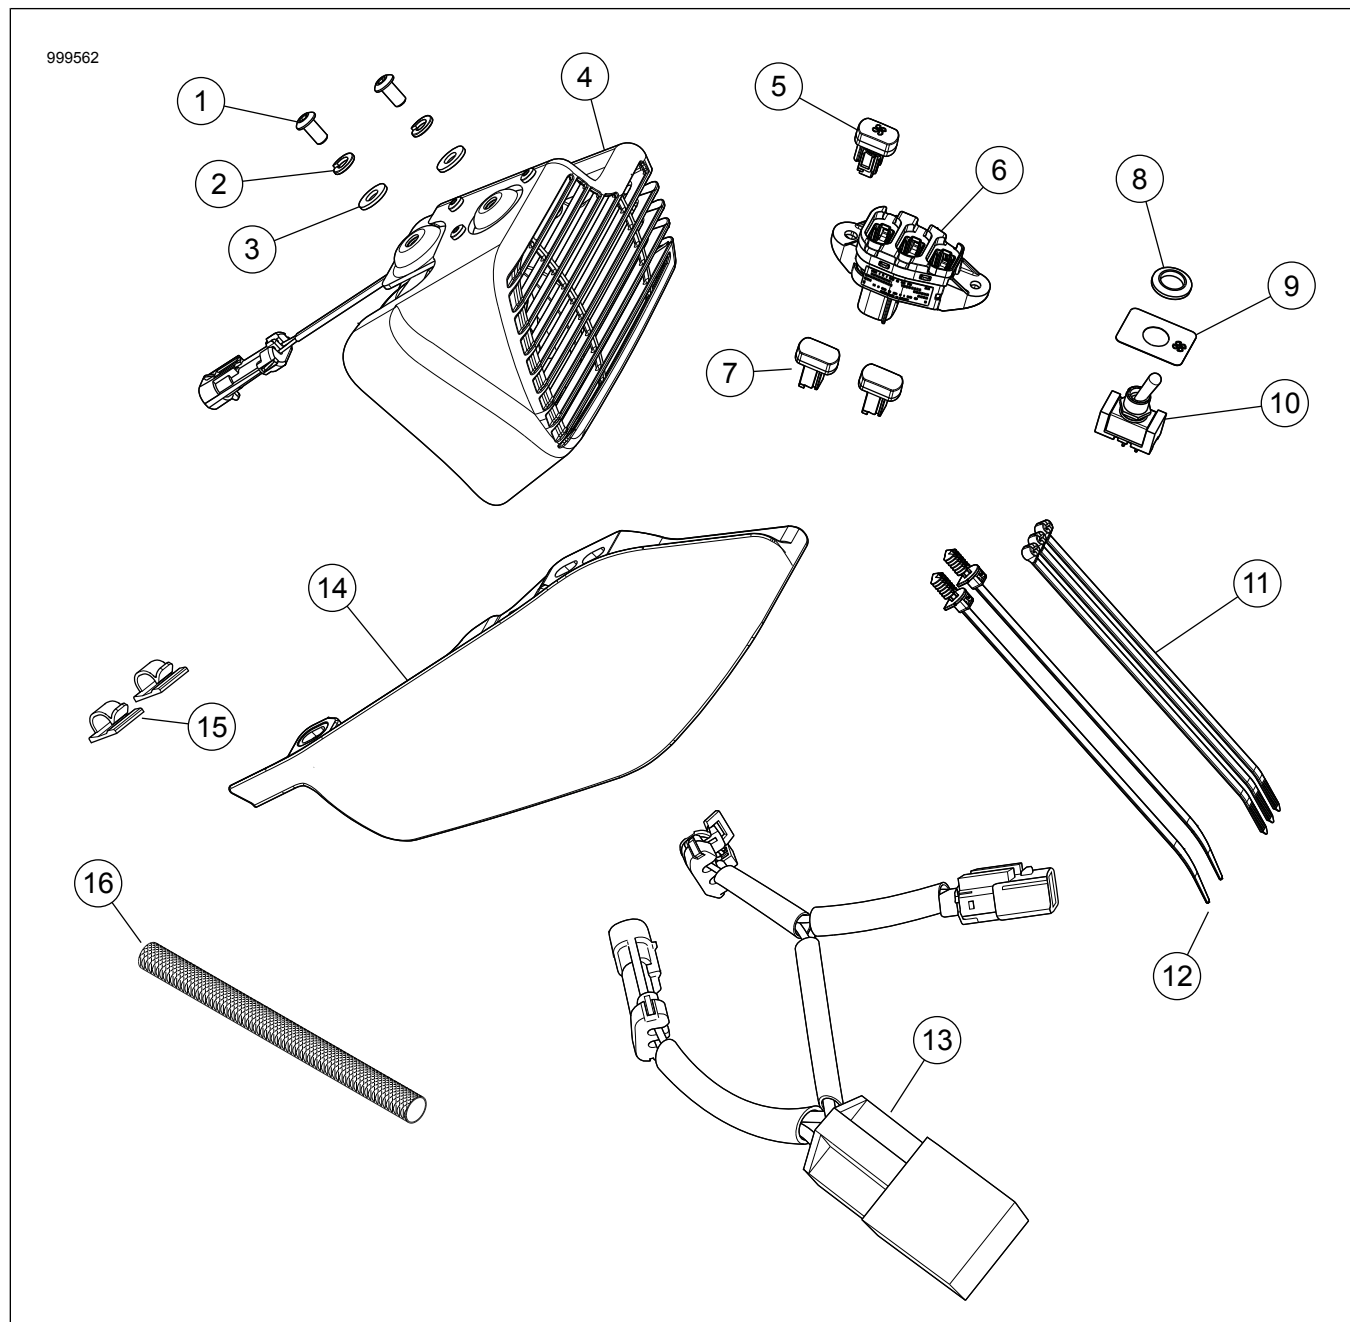

Figure 7. Service Parts: Fan Kit
See Figure 7 and Table 1.
1. See Figure 7. If previously equipped, install new mid-frame deflector (13).
5. See Figure 7. Install fan switch.
- a. **Fairing vehicles:** Install switch panel (6) and fan switch (5). See service manual.